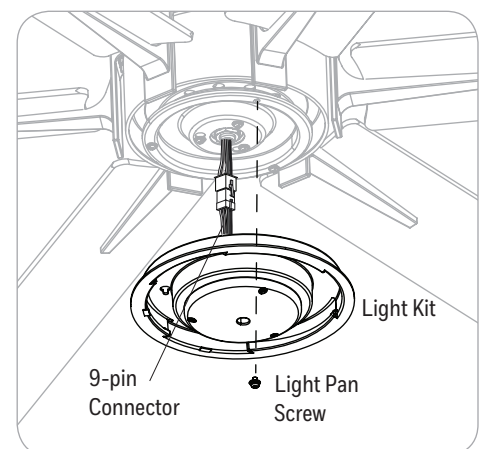

Figure 2.15
15. Loosen two and completely remove one of the light pan screws from the light pan. Then, connect the 9-pin connector from the fan to the 9-pin connector from the light kit. Place the keyholes of the light kit over the light pan screws and turn clockwise. Secure the light kit with the remaining previously removed light pan screw. Tighten all three light pan screws (Figure 2.15).